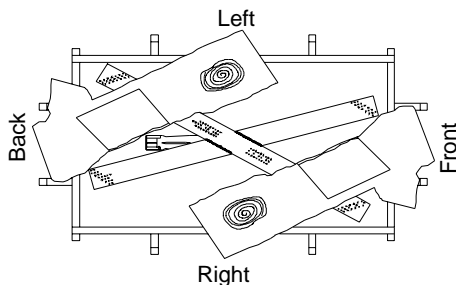

Figure 44 - Installing Logs "A" (Top View)
8. Place logs "A" as shown in Figure 44.